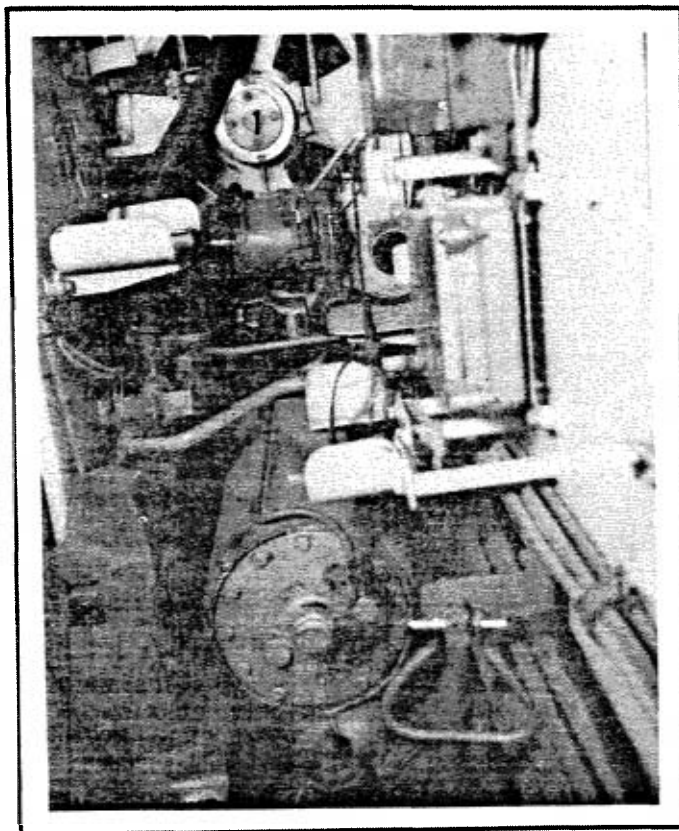

FIG. 3-67. PREHEATER
b. Hull Ventilator (Fig. 3-67). The hull ventilator is located below and to the rear of the Tank Commander's seat. It pulls air from the turret area into the engine compartment. This ventilator must be used to supply air to the engine when the tank snorkels.